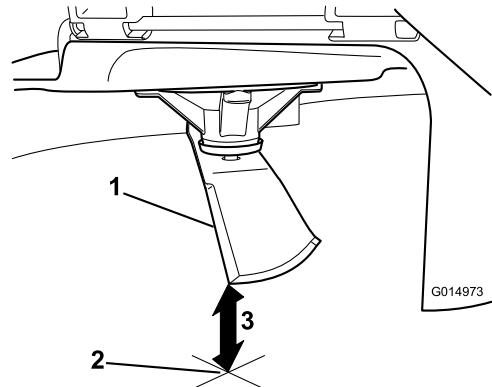

Figure 91
3. Measure from the tip of the blade to the flat surface (Figure 91).